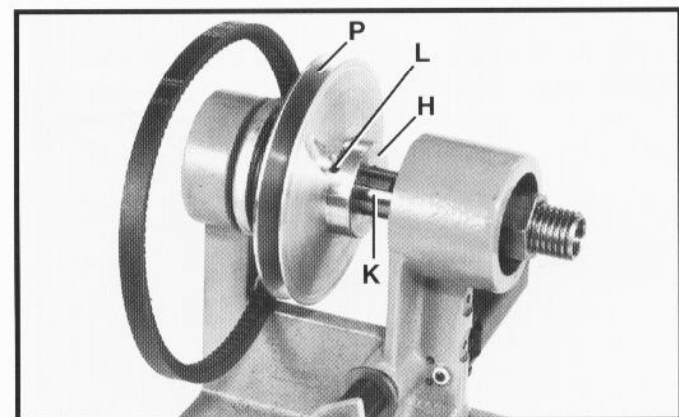

Fig. 100
12. Fig. 100, illustrates the spindle assembly replaced in the headstock. Loosen set screw (L) and move pulley hub (H) to the mark made on the spindle (K) in **STEP 8** and tighten set screw (L). **CAUTION: CARE MUST BE TAKEN WHEN LOOSENING SCREW (L) AS THERE IS CONSIDERABLE SPRING PRESSURE WHICH WILL MOVE THE PULLEY HALVES TO THE RIGHT.** After set screw (L) is tightened, manually move pulley half (P) to the left as far as possible and push belt down between pulley halves. This will provide sufficient slack in the belt when assembling belt to motor pulley.